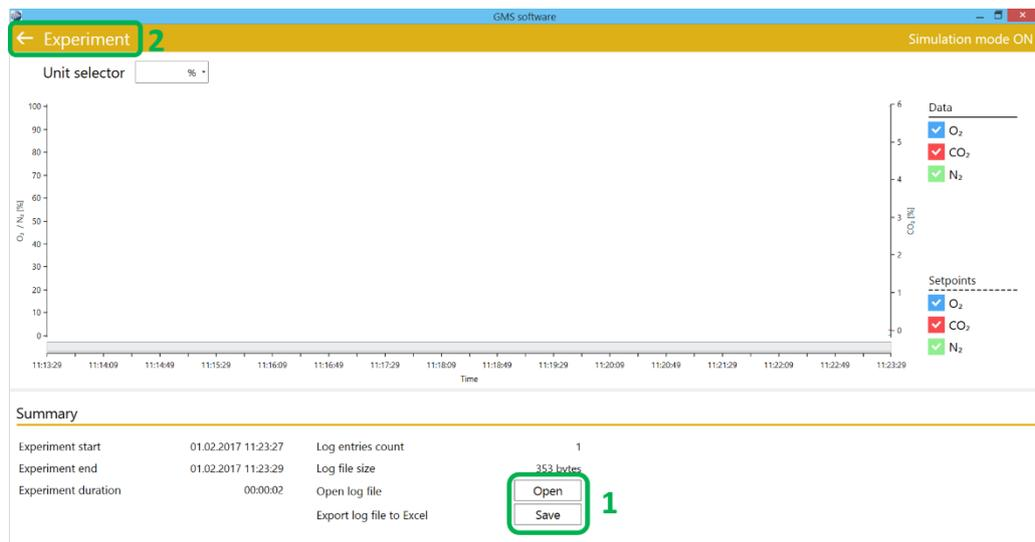

Figure 8: Experiment summary.
5. Choose to open or save the log file (1, Figure 8) and return to the main menu by clicking on the arrow (2).